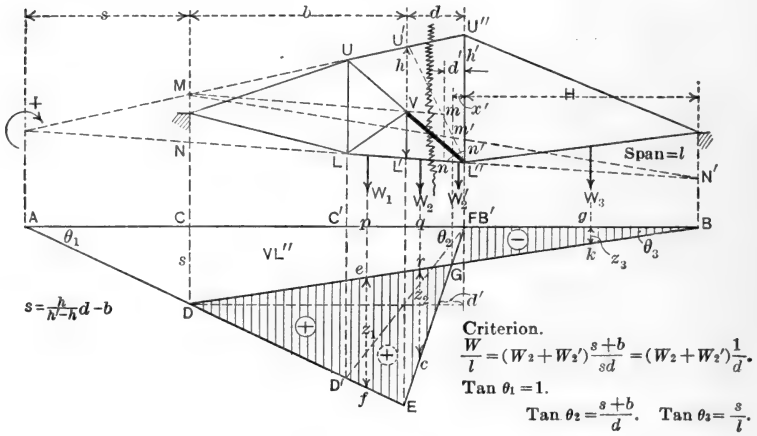

FIG. 8.
Lower Segment of Diagonal in Sub-strut Truss.—Let VL'' , Fig. 8, be the lower segment considered. This is a portion of the diagonal UL'' of the main truss and also forms a chord member of the auxiliary truss LVL'' .
The criterion for the position of wheel loads producing maximum moment is found in the manner previously explained. Referring to equation (13) and Fig. 8.